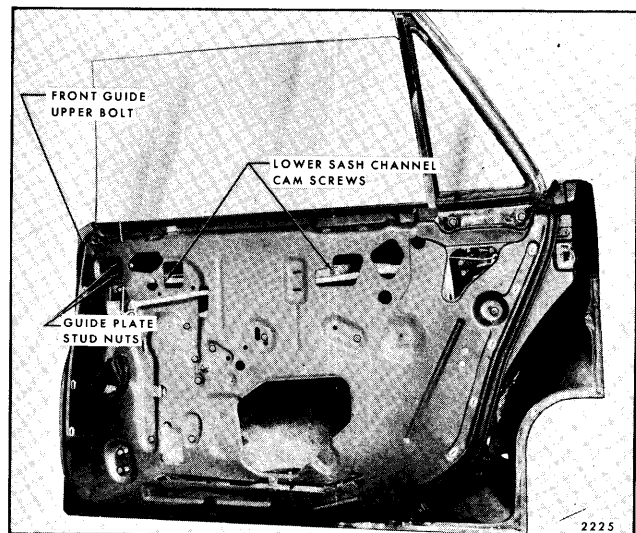

Fig. 6-96—Rear Door Window Removal -
3. Lower glass approximately 2" and remove lower sash channel cam attaching screws (Fig. 6-96).
- b. Front guide upper attaching bolt (Fig. 6-96).
2. To adjust door window fore-or-aft, loosen guide plate to lower sash channel attaching nuts (Fig. 6-96). Adjust window fore-or-aft as required and tighten nuts.